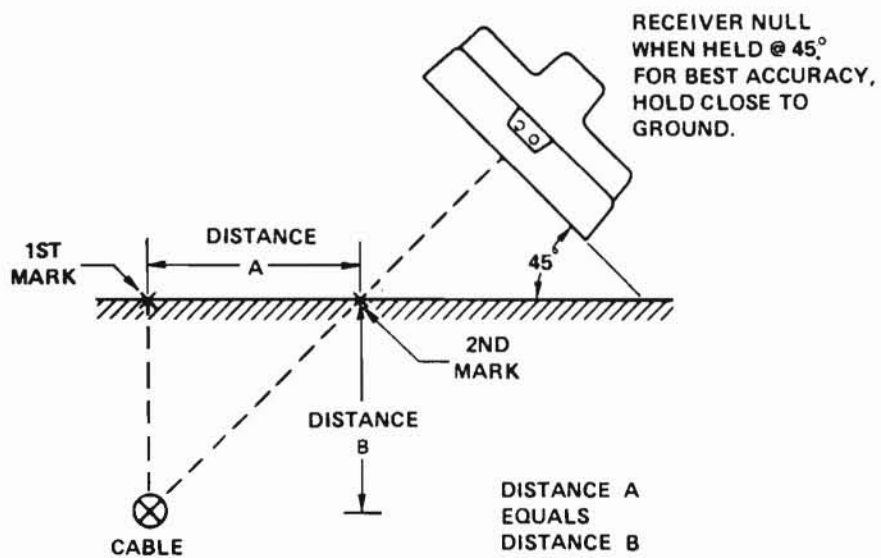

Fig. 9 - Cable Depth Location (Triangulation Method)
3) Hold the receiver so that the handle is **PARALLEL** to the cable path, and the bottom of the receiver is at 45 degrees relative to the ground. See Fig. 9.